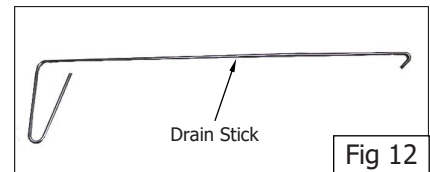

Fig 12
7. If necessary, use the drain stick (see Fig 12) to dislodge any blockages in the drain.